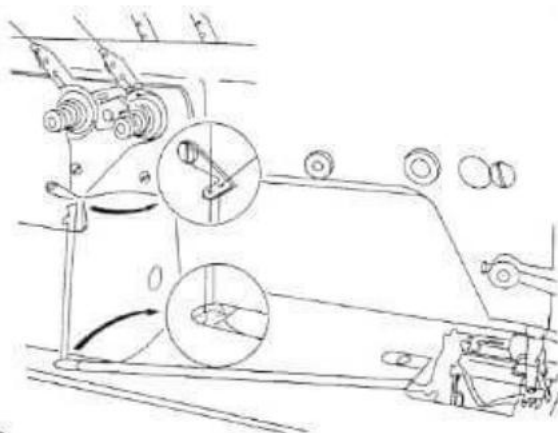
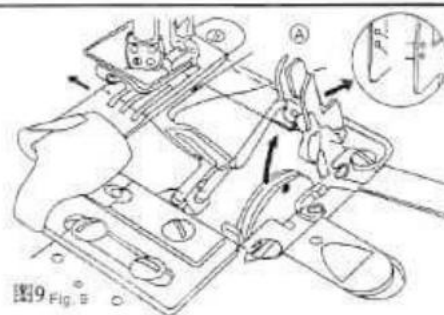

图8 Fig. 8
图9 Fig. 9
九. 底线的穿法 (图8.图9) The threading of bobbin thread (Fig.8,9)
- 1、按(图8)所示穿过夹线器单面导线板,如用捻度大的线或缝纫时需送料距大的时候应穿二个孔。
- 2、把(图9)中的扳簧朝操作人员侧拉,A就向上抬起。
To make bobbin thread going through the eye of the needle in the order as shown in (Fig.8 and 9)
- 2) Pull the spring toward the operator, as shown in Fig.9 and part A will rise upwards.
- 3) When threading the looper, the thread shall be made go through the eye of the needle with a tweezer as shown in Fig.9 and 50mm of remaining thread be pulled out.